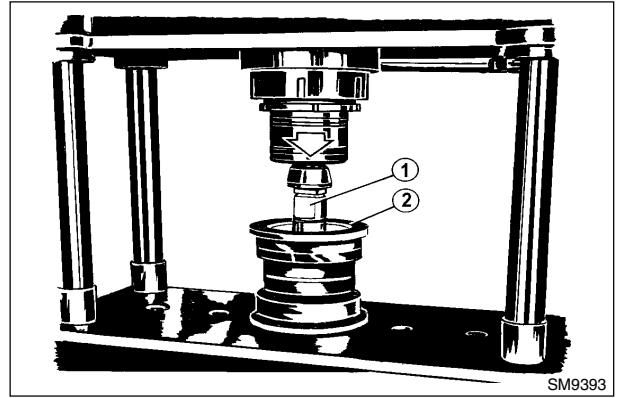
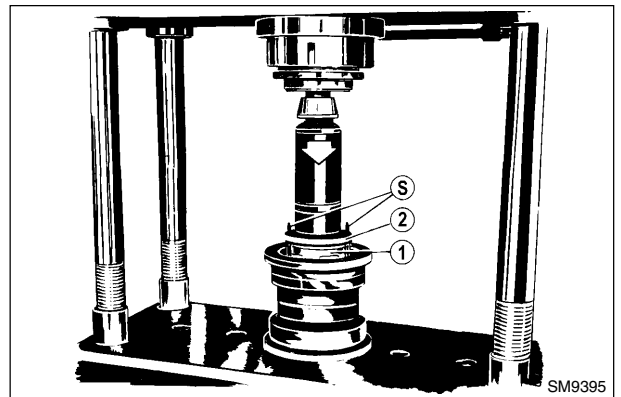

Fig. 5-40
Fig. 5-42
7. Install O-Ring (\*) (1, fig. 5-40) on bush housing (2). Press the first housing, using guide pins (S, fig. 5-42) to facilitate the alignment of the holes of the housing securing screws.